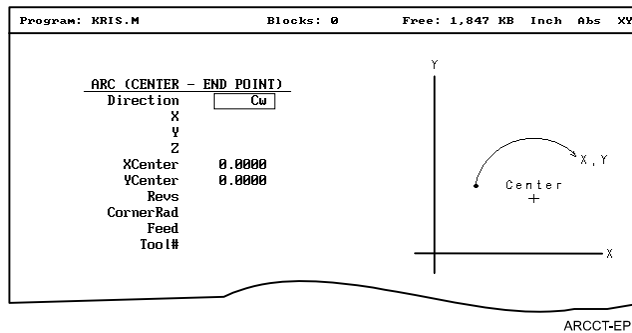

Figure 4-14, ARC (CENTER – END POINT) Graphic Menu
1. In Edit Mode, press **3/ARC** to display the **ARC (CENTER – END POINT)** graphic menu. Refer to **Figure 4-14**.